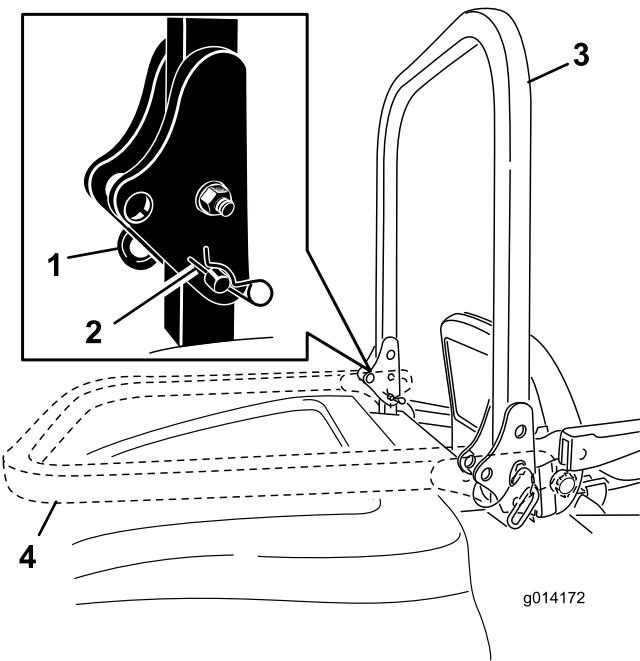

Figure 8
1. To lower the roll bar, remove the hairpin cots, push the roll bar forward against the springs, and remove the two pins (Figure 8).
2. Lower the roll bar to the down position (Figure 8).
3. Install the two pins and secure them with the hairpin cotter pins (Figure 8).
4. To raise the roll bar, remove the hairpin cotter pins and remove the two pins (Figure 8).
5. Raise the roll bar to the upright position and install the two pins and secure them with the hairpin cotter pins (Figure 8).